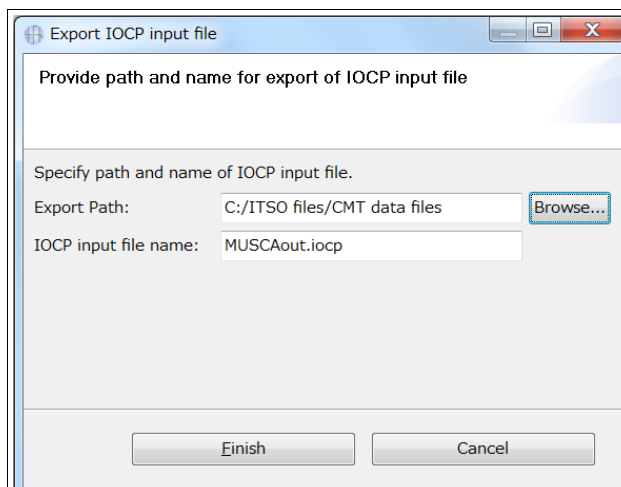

Figure 4-49 Export IOCP File
2. Enter the Export Path and IOCP Name for the IOCP output file and click **Finish** (see Figure 4-49).